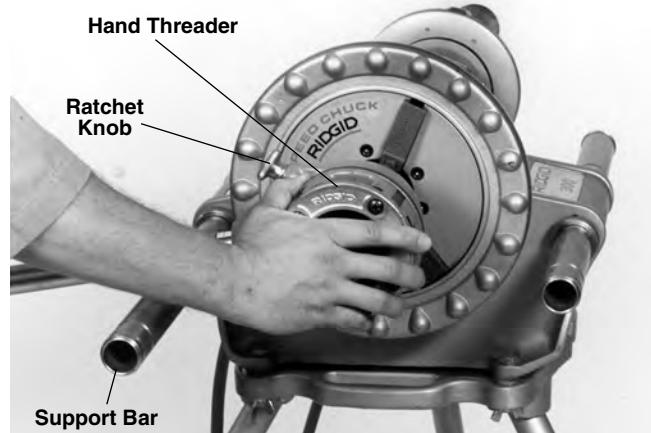

Figure 7 – Pushing Hand Threader onto Pipe to Engage Dies
3. Rest the hand threader ratchet handle on the left support bar (as viewed when facing the front of the Power Drive – *Figure 7*).
8. Push the die head against the pipe using the palm of the right hand until the dies engage the workpiece. Once engaged, the threads will be cut as the dies pull themselves onto the end of the pipe (Figure 7).